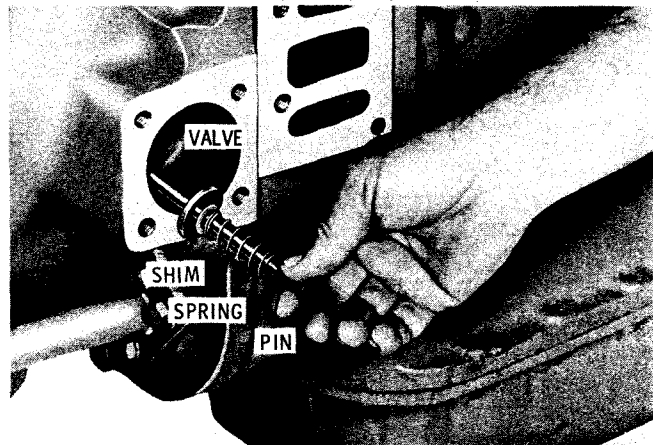

Fig. 7-102. Installing lubrication regulator valve components (CLT) S1739
(13) On CLT, VCLT models only, install the lubrication regulator valve guide pin, spring, shims and valve (fig. 7-102). Note that the convex side of the valve is toward the converter housing. Refer to paragraph 3-15 for adjustment of lubrication pressure.
(14) Install the lubrication regulator valve cover gasket and cover, and secure with four 3/8-16 x 3/4-inch bolts and lockwashers. Tighten the bolts to 26 to 32 pound feet torque. Install two guide bolts into the retarder valve body mounting pad. Install the hydraulic retarder valve body gasket, restrictor plate 45 (B, foldout 11) and gasket 46. Earlier models require one gasket only. Install the retarder valve body assembly and secure with seven 3/8-16 x 4 1/4-inch (front port valve) or 3-inch (rear port valve) bolts and lockwashers, removing the guide